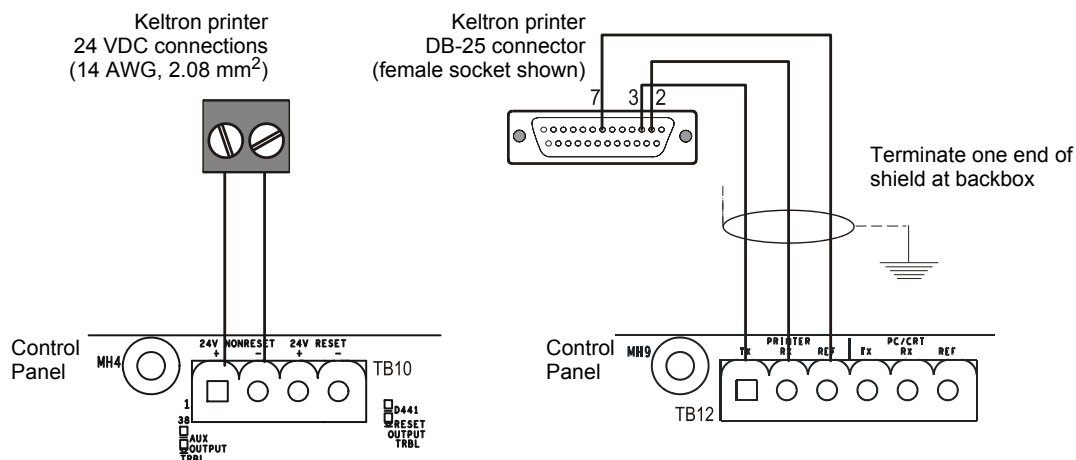

Figure 3.6 Keltron Printer Connections
1. Connect the three (3) open leads of the custom cable to the TB12 terminal block on the control panel as shown in Figure 3.6.
2. Connect DC power from TB10 terminal block on the control panel as shown in Figure 3.6.